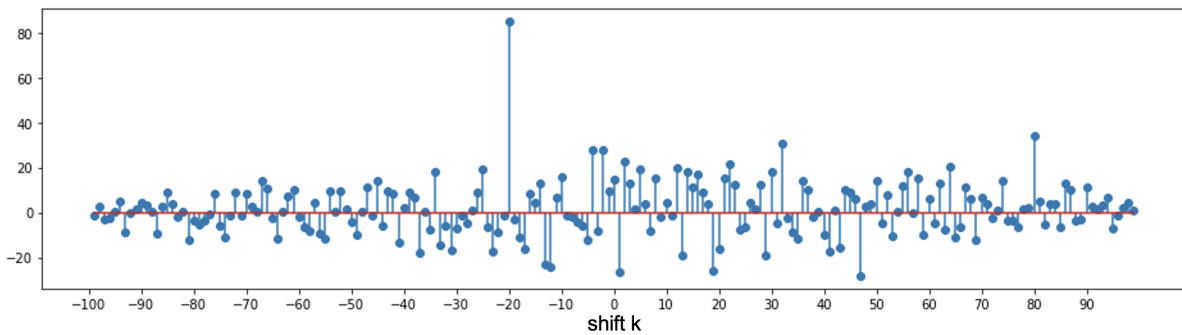
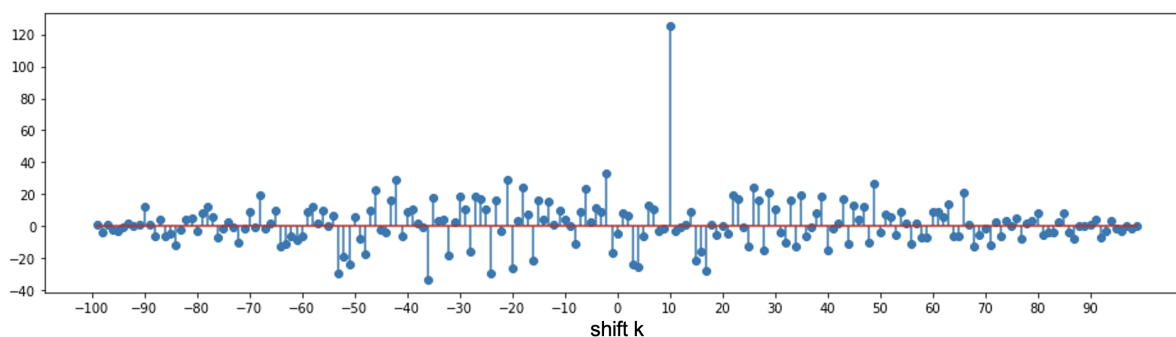

Figure 14: Linear cross-correlation plots for $\text{Corr}_{\vec{r}}(\vec{s}_1)$.
Figure 15: Linear cross-correlation plots for $\text{Corr}_T(\vec{s}_2)$.
The linear cross-correlation $\text{Corr}_{\vec{r}}(\vec{s}_1)$ has been computed and plotted in Figure 14, and similarly $\text{Corr}_{\vec{r}}(\vec{s}_2)$ is plotted in Figure 15. **Determine the shifts for \vec{s}_1 and \vec{s}_2 in the received signal \vec{r} , i.e. solve for k_1 and k_2 in equation (3). Explain your answer.**